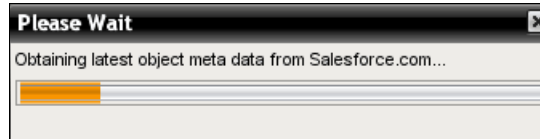

Figure 10-15 TIP wizard retrieving metadata from Salesforce.com
1. Click the blue circle. Studio connects to Salesforce.com to retrieve a current list of standard and customer fields, also called *metadata*, for your Account object. While Studio connects, the message shown in Figure 10-15 displays.